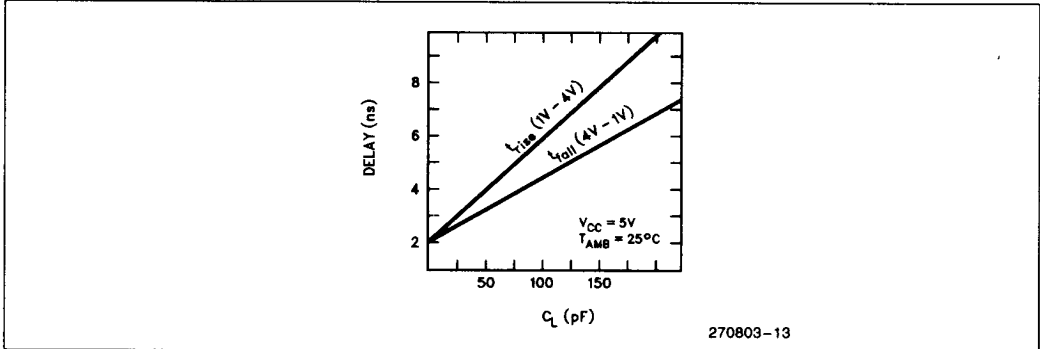

Figure 17
5. Specified for a 50 pF load, see Figure 17 for rise and fall times outside 50 pF.
6. See Figure 17 for rise and fall times.